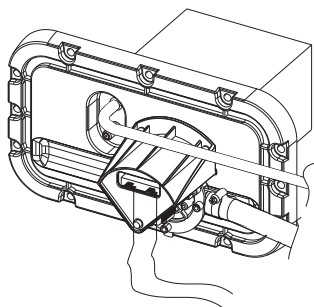

Fig. 1.c
1. remove the cover of the machine (hydraulic side) unscrewing the screws (Fig. 1.a);
2. remove the steam pipe from the upper pipe union of the cylinder (Fig. 1.b);
3. electronically disconnect the level sensor (Fig. 1.b, part. no. 3);
4. remove, from the cylinder cover, the pressure equalising pipe of the level control (Fig. 1.a, part. no. 1);